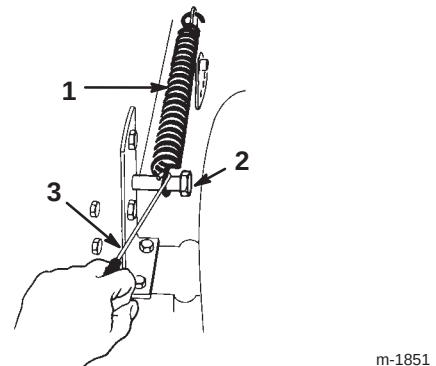

Figure 43
11. Remove the lift assist spring between the mower right side life bracket and the retaining bolt (Fig. 43).
29. Hook the lift assist spring between the mower right side lift bracket and the retaining bolt (Fig. 43).